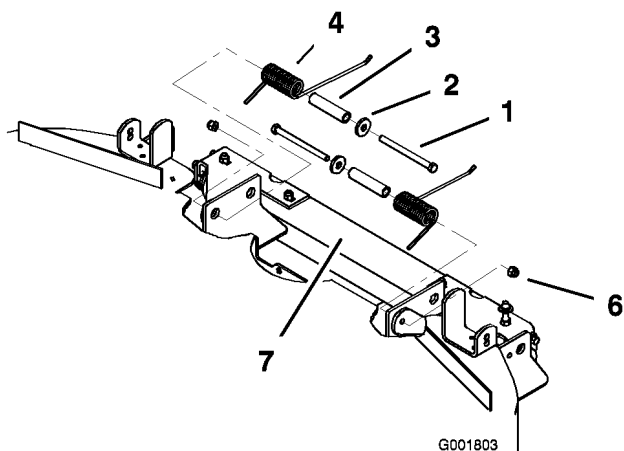

Figure 2
2. Thread a washer, spacer, and spring (with the long end toward the bolt head) onto each bolt (3/8 x 4-3/4 inches) (Figure 2)
- Secure the roller assembly with the bolt assemblies and 2 nuts (3/8 inch) as illustrated in Figure 2.
Important: Ensure that you install the springs as shown in Figure 2. The springs are opposites of each other, one meant for the right side and one for the left. Ensure that the long end of each spring is on the top of the roller assembly and the short end is angled up against the deck.